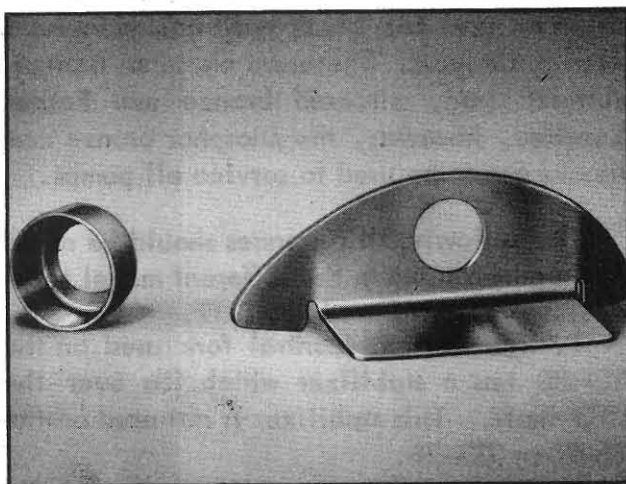

Fig. 316
3. The TO-30 safety valve is provided with a metal baffle which is not used in either the TO-20 or TE-20 models. Two types of baffles have been used. They both serve the same purpose and are shown in Fig. 316. The cup type is preferred since it is less apt to cause interference during assembly.